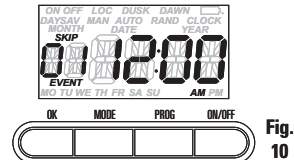

Fig. 10
- Press the **PROG** button to view the first event screen (Fig. 10). If all programming has been cleared, the timer will display **SKIP** above the event display ("01"), indicating that the first event is not programmed, and "--:--" will replace the time display.